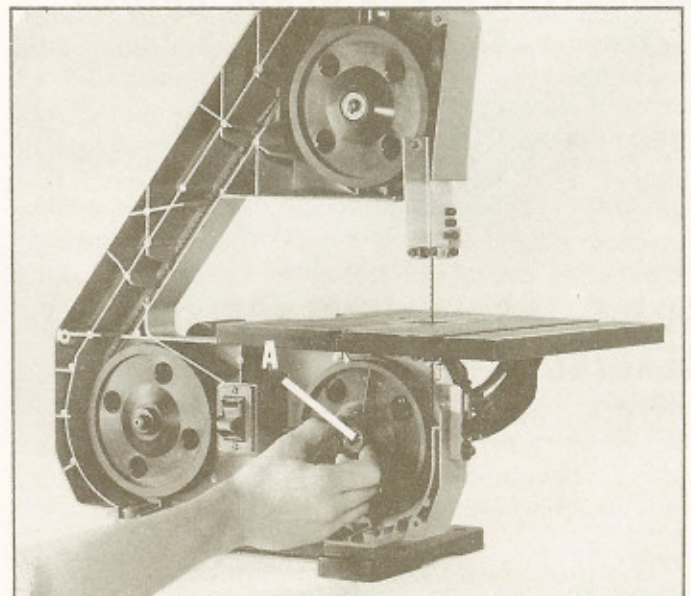

Fig. 10
2. Rotate the hand knob (A) Fig. 10, clockwise and check to see if the blade rides true, on the approximate center of the three wheels. If the blade rides forward or backward the following adjustment must be made.
5. Rotate the hand knob (A) Fig. 10 clockwise to see if the blade rides on the approximate center of the wheels. Readjust if necessary until the blade tracks properly.